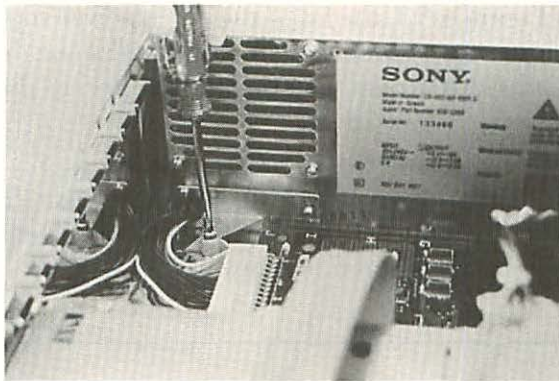

Figure 4-10 The power supply is fastened by a single #1 Phillips-head screw.
5. The power supply is fastened by a single #1 Phillips-head screw. As shown in Figure 4-10, the screw is located in the left front corner of the CPU. Remove the power-supply screw, and put it in the parts container.